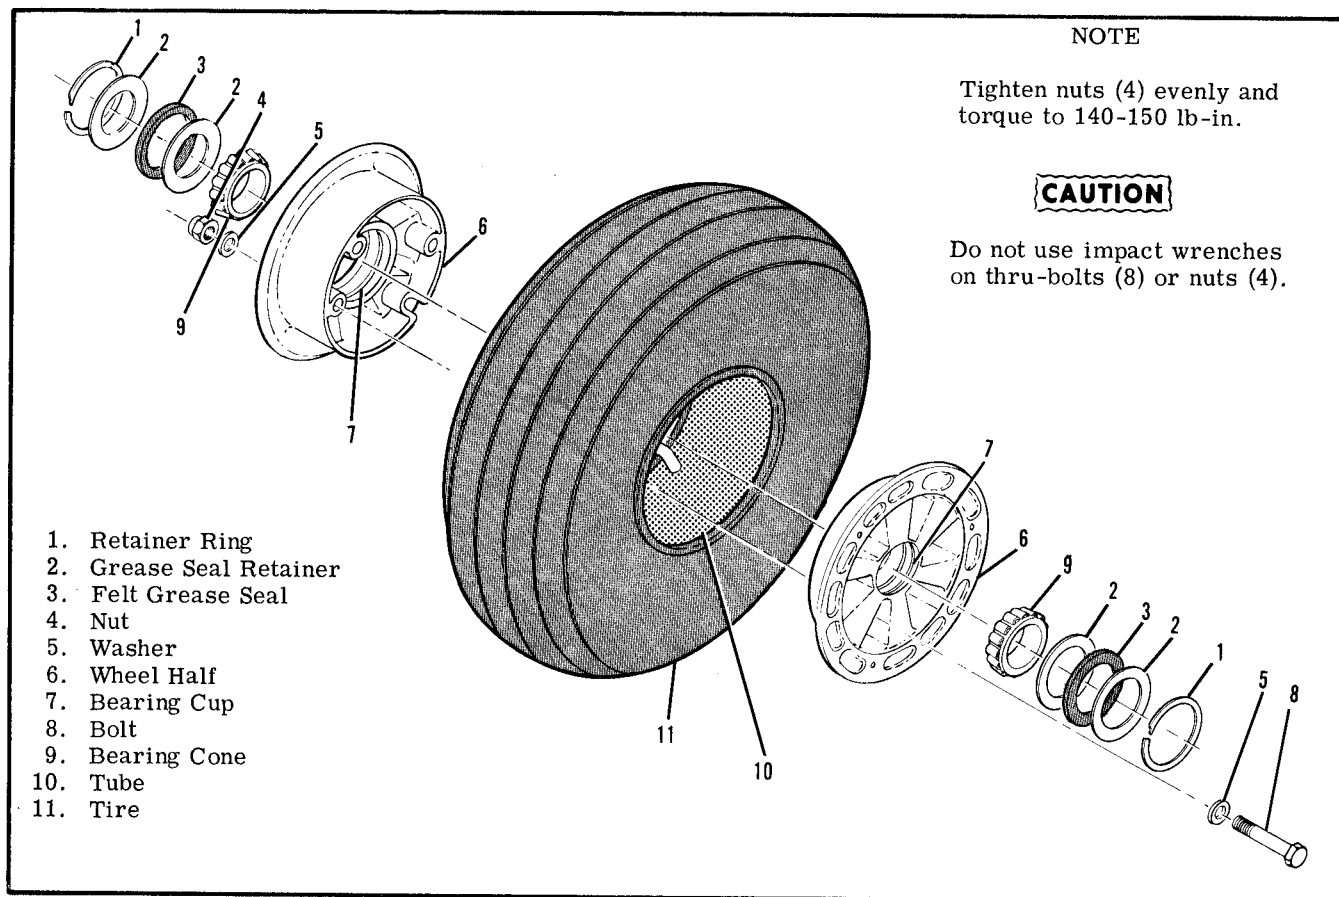

Figure 5-8. Nose Wheel Assembly
**5-32. NOSE WHEEL DISASSEMBLY.** (Refer to figure 5-8.)
#### 5-34. NOSE WHEEL REASSEMBLY. (Refer to figure 5-8.)